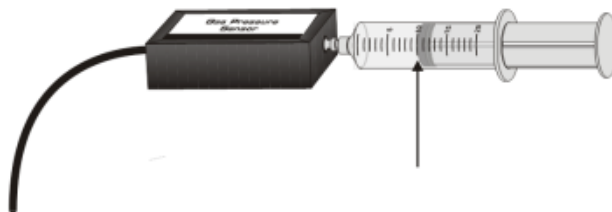

Figure 6.1. Gas pressure sensor
6. Obtain all the parts necessary to construct the apparatus shown in Figure 6.1. Be sure that the syringe piston slides easily when pressure applied.